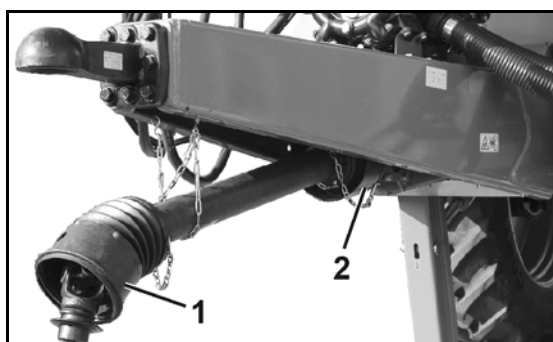

Fig. 12
- Fig. 12/...
(1) PTO shaft guard
(2) Machine PTO shaft guard